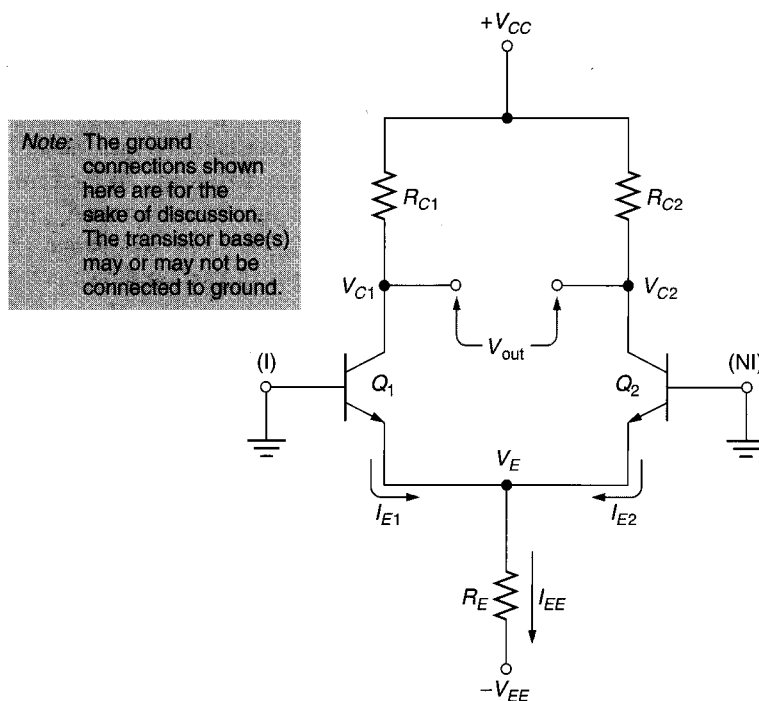

FIGURE 15.16 The basic differential amplifier.
A *differential amplifier* is a circuit that accepts two inputs and produces an output that is proportional to the *difference between* those inputs. A basic differential amplifier is shown in Figure 15.16. Note that the input to  $Q_2$  is identified as the *noninverting input* (NI) and the input to  $Q_1$  as the *inverting input* (I).
Ideally, the  $Q_1$  and  $Q_2$  circuits have identical characteristics. Since they are etched on a single piece of silicon, the transistors are identical. By design, the values of the two collector resistors are also equal. With identical characteristics, the quiescent values of  $I_E$  for the transistors are equal. When the two inputs are grounded as shown in Figure 15.16: